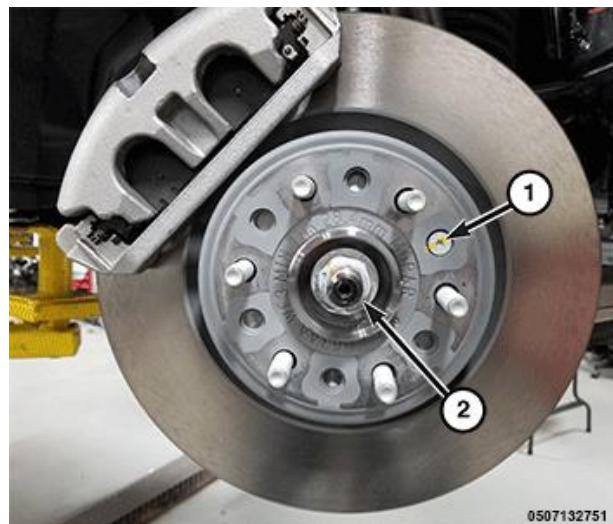

Figure 2 – Halfshaft Nut
7. Have a helper apply brake pressure and remove and DISCARD the halfshaft nut (2) (Figure 2).
9. Install the three shock absorber upper nuts (1) (Figure 2). Tighten to 70 N·m (52 ft. lbs.).
19. Install the halfshaft nut (1) (Figure 2).
20. Have a helper apply brake pressure and tighten the halfshaft nut (2) (Figure 2) to 250 N·m (184 ft. lbs.).